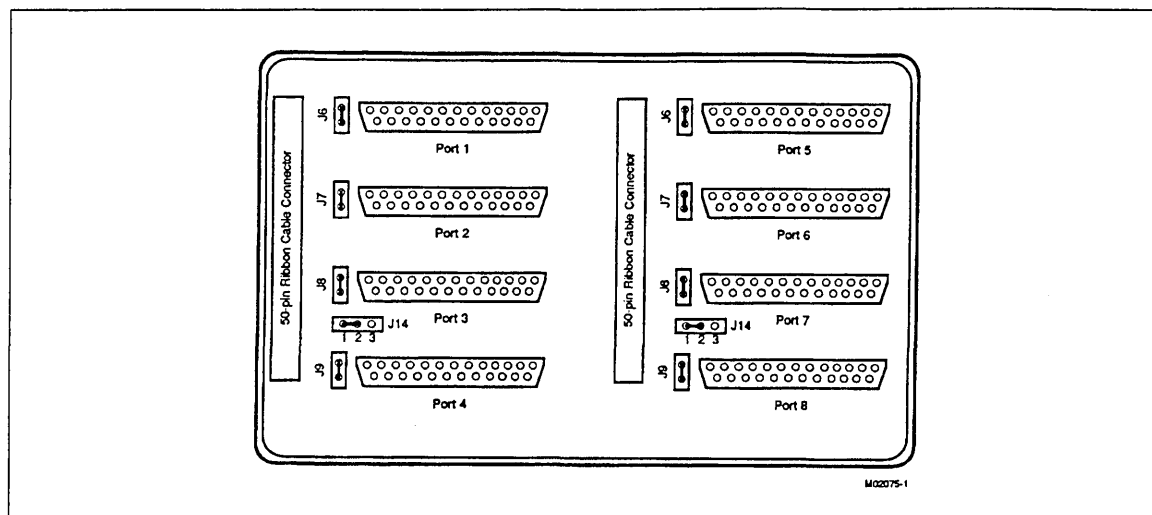

Figure 7-2. Multiport Network Adapter Housing Jumper Locations (Inside View)
- ___ a. Install the jumper plugs inside the housing cover exactly as shown in figure 7-2. Jumper plugs for both J14 jumpers must be installed on pins 1 and 2 to disconnect -12 V from pin 15 of ports 3 and 7, and jumper plugs for both sets of jumpers J6 through J9 must be on all eight ports to connect pin 1 of each 25-pin connector to protective ground.